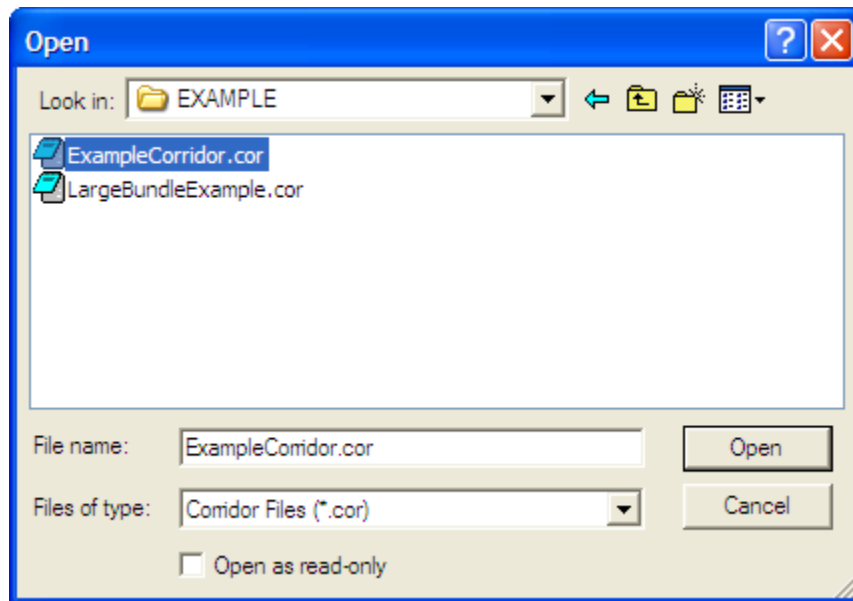

Figure 1-18. Open Dialog Box
1. Select **File>Open** from the Main Menu or click the **Open** button  on the LineProp Toolbar. The Open dialog box is displayed (Figure 1-18).